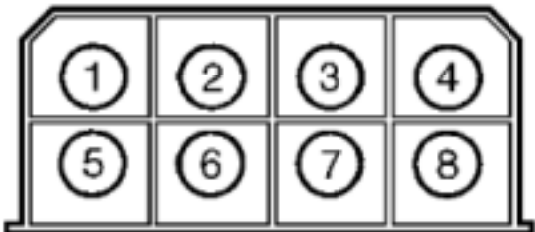

Fig. 10
Using a DVOM, measure resistance between appropriate solenoid wire connector and appropriate terminal at transmission 8-pin connector. See Fig. 2 Resistance should be zero ohms for each solenoid wire. For transmission connector terminal locations, See Fig. 10 For transmission connector terminal identification, see TRANSMISSION CONNECTOR TERMINAL IDENTIFICATION table. If resistance is not as specified, repair appropriate circuit as necessary.
(1) - For terminal locations, See Fig. 10